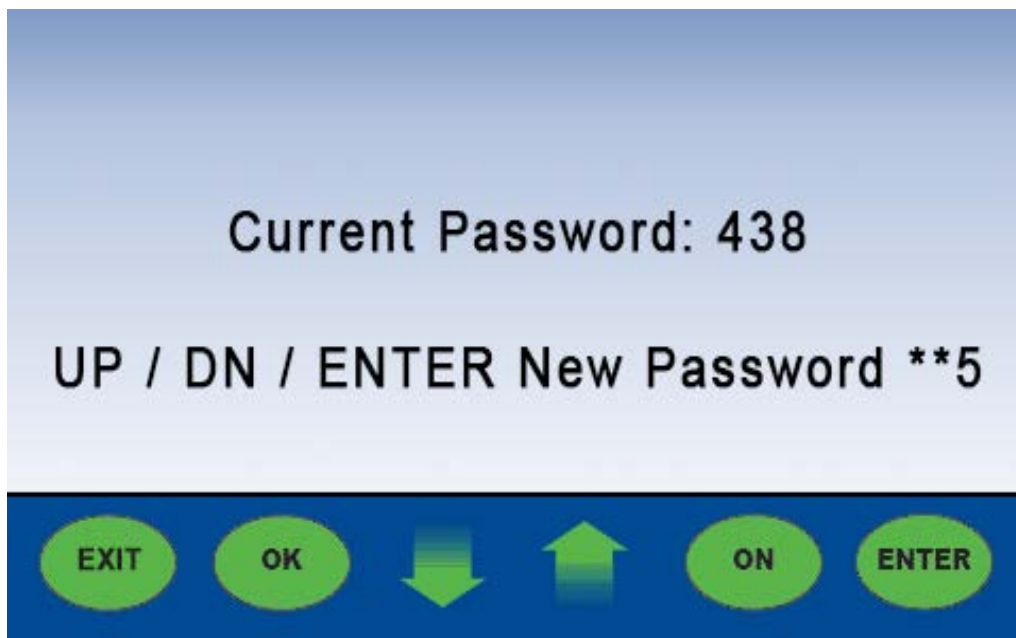

Figure 74
9. Press the **enter button**; a (*) is inputted into the field for the second number. Now, the third digit, the last digit in the password sequence, will begin to blink (**Figure 74 on page 123**).